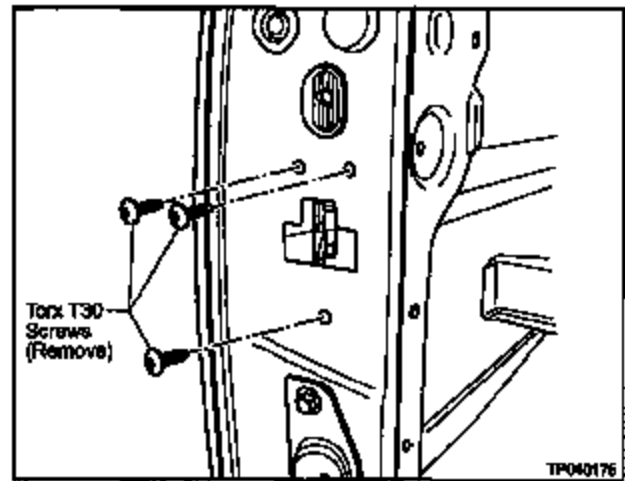

Figure 10
- b. Remove three Torx T30 Screws that secure the front end of the Latch Assembly to the door (see Figure 10).